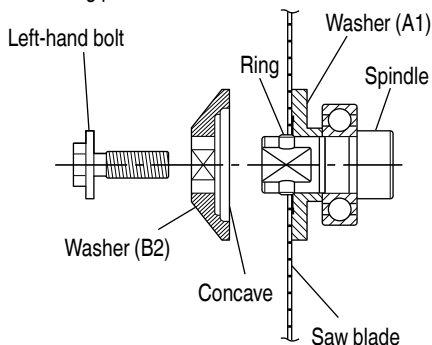

Fig. 17
2. Mounting the Saw Blade (Fig. 17)